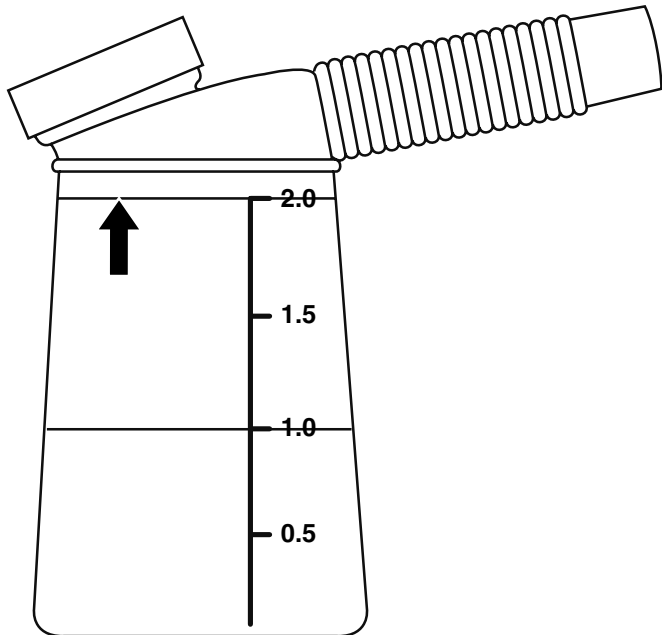

Figure 23 – Oil Fill Container
- Using the supplied oil fill container and oil, fill the container to the 2.0 mark on the container. Do not overfill (see Figure 23).